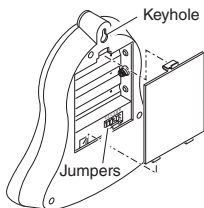

Figure 2
2. **Open chime battery compartment.** Press in latch on rear of chime and lift off battery cover (see Figure 2).